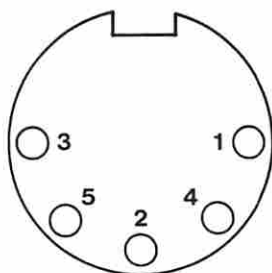

Figure 5. Voltage Check
- Check the voltage on the system board keyboard connector as shown in Figure 5.